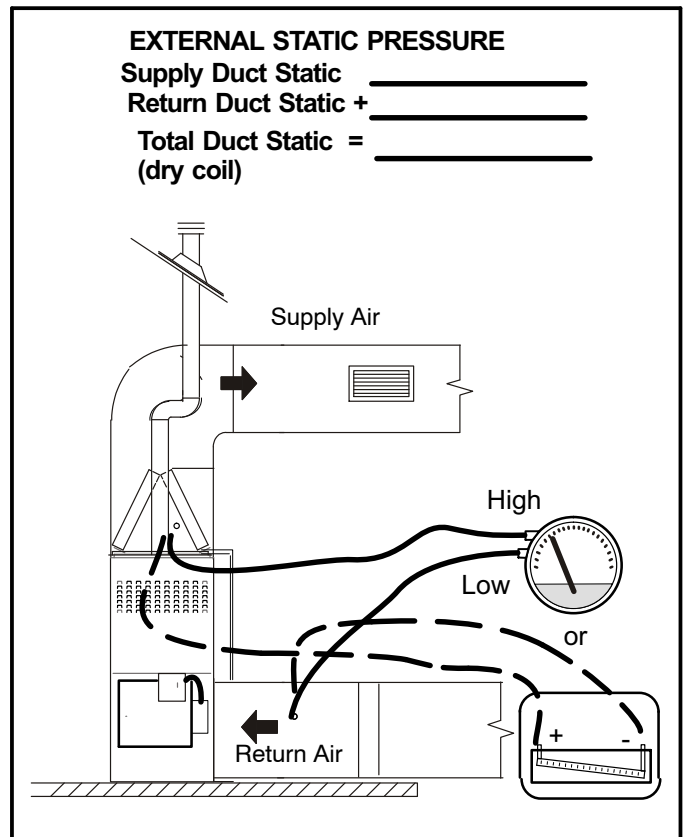

FIGURE 26
- 1 - Tap locations shown in figure 26 .